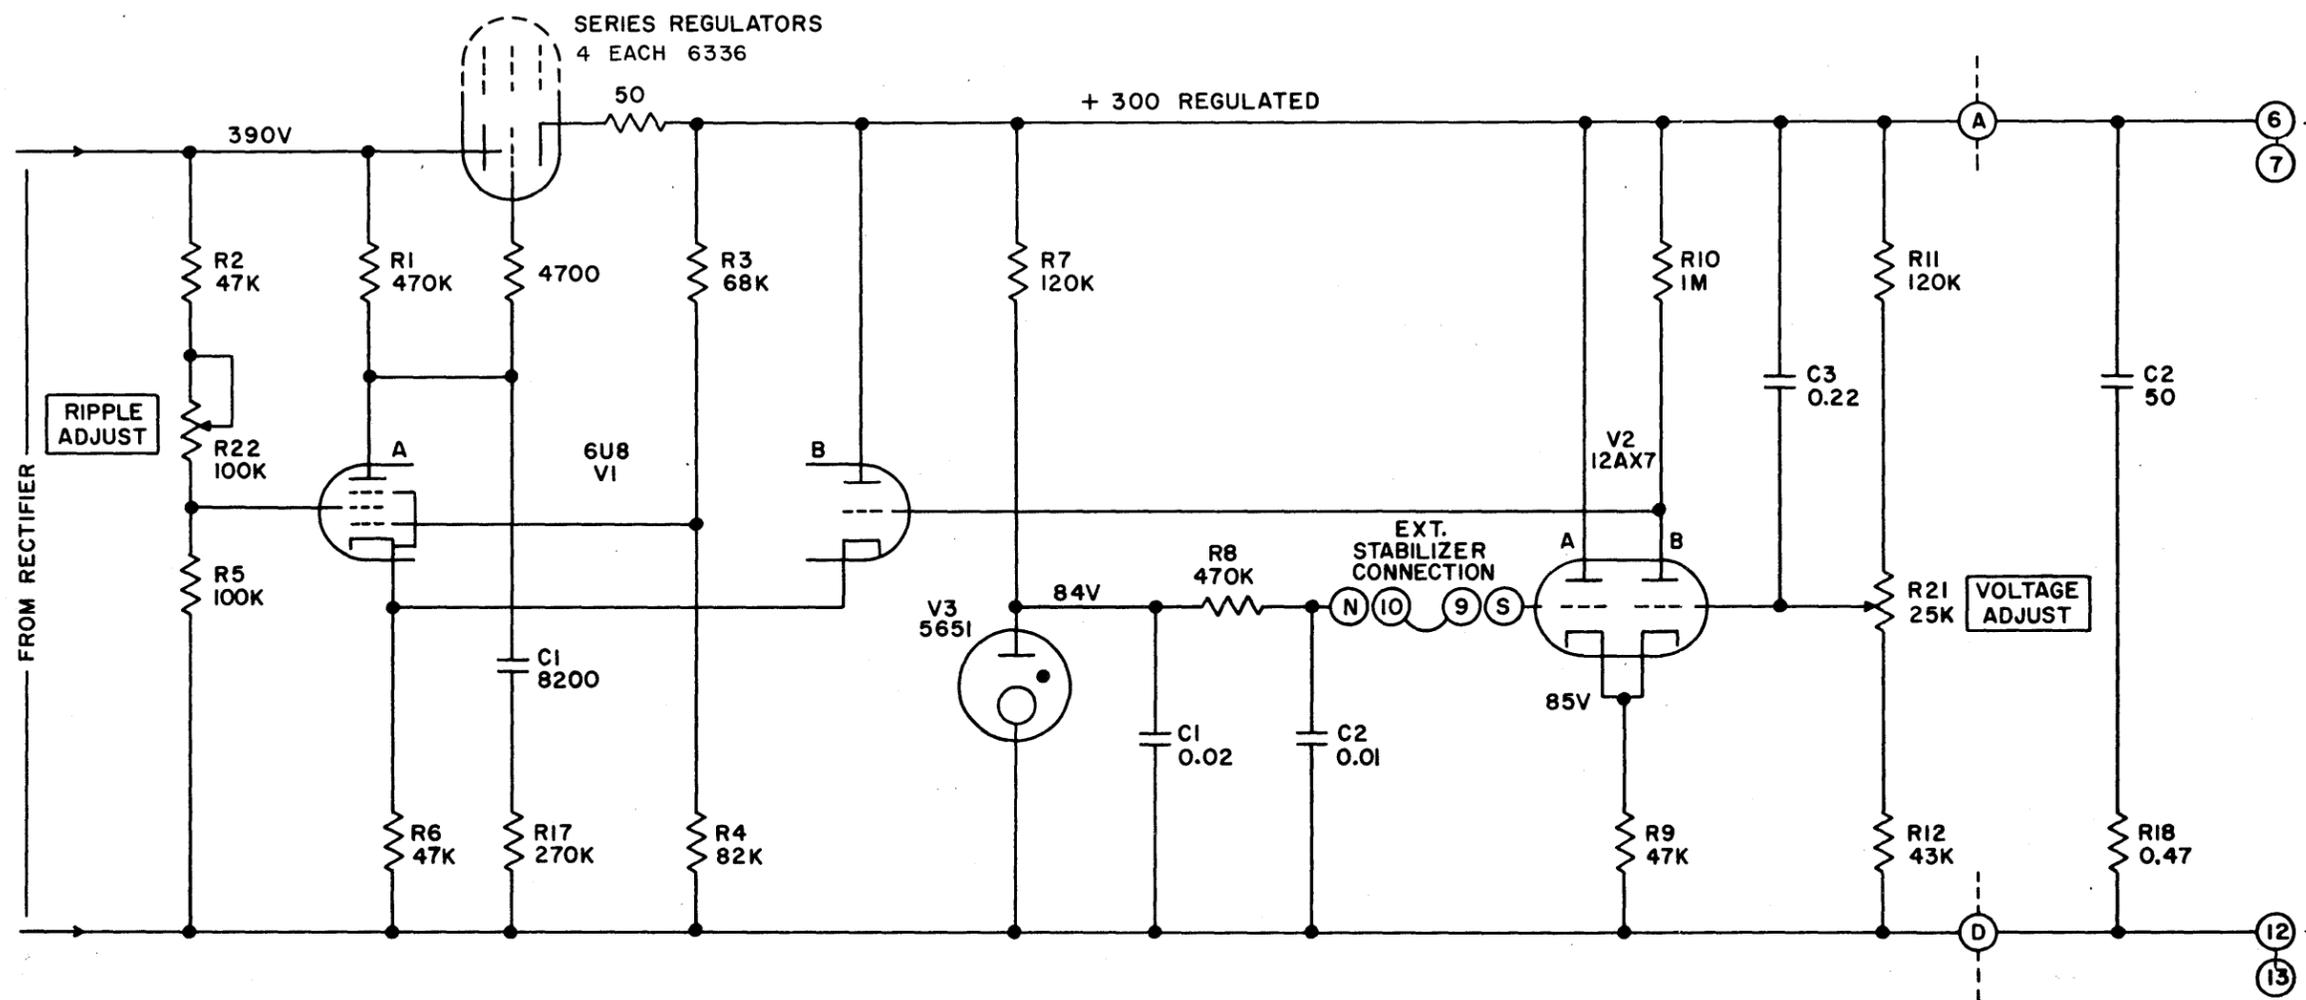

FIGURE 3.
c. The Regulator Amplifier 43.001 detects any change in the regulated output voltage, amplifies and inverts the voltage variation in a d-c amplifier, and applies the resulting signal to the grids of the four regulator tubes. Refer to figure 3. The grid of V2b is connected to a voltage divider (R11, R12, R21) across the output of the 300 volt supply. Any change in the output is amplified and inverted in this triode. Capacitor C3 provides a low impedance coupling to the grid for high frequency transient voltages. The signal appearing at the plate of V2b is coupled to the grid of the cathode-follower V1b. Since this tube and V1a have a common cathode resistor, the signal is impressed upon the cathode of V1a and amplified again. Grid no. 1 of V1a is connected to another voltage divider (R3, R4) across the output of the supply. A portion of any change in the output voltage appears at this grid and is amplified in V1a. Both signals have the same effect on the plate voltage of V1a; a rise in output voltage of the supply drives the cathode of V1a down and grid no. 1 more positive; the tube draws more current through the plate load resistor R1. The series regulator grids are directly coupled to this plate through 4,700-ohm resistors. When the grids become less positive, the internal plate-cathode resistance of the regulators increases. The voltage drop across the regulators increases, causing a smaller drop across the load on the output of the supply.